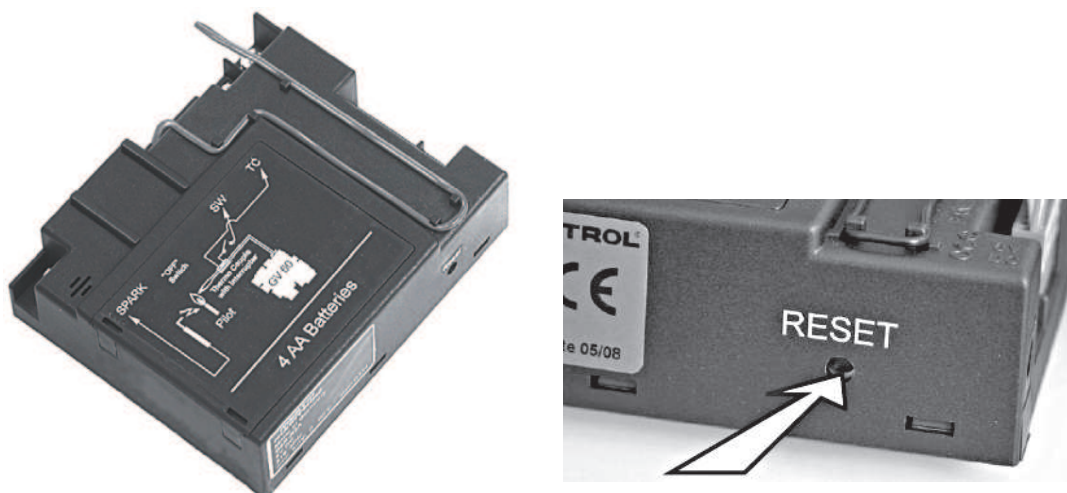

Figure 3: Receiver “RESET” button
- Press the “**RESET**” button on the receiver, and keep this pressed until 2 beeps are heard. See figure 3.